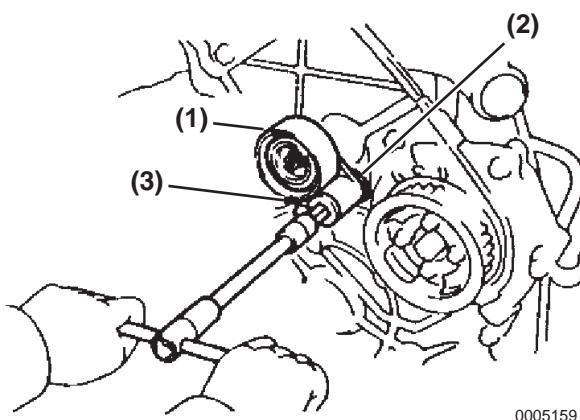

Figure 5-161
- Remove the pivot bolt, idler pulley (Figure 5-161, (1)) and plate washer (Figure 5-161, (2)) using an 8 mm hex / allen wrench (Figure 5-161, (3)).